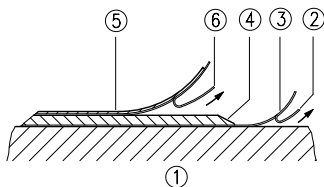

Fig. 1: Mounting of the magnetic strip
**Mounting steps (see fig. 1)**
- Clean mounting surface (1) carefully.
- Remove protective foil (2) from the adhesive side of the magnetic strip (3).
- Stick down the magnetic strip (4).
- Remove protective foil (6) from adhesive tape on the cover strip (5).